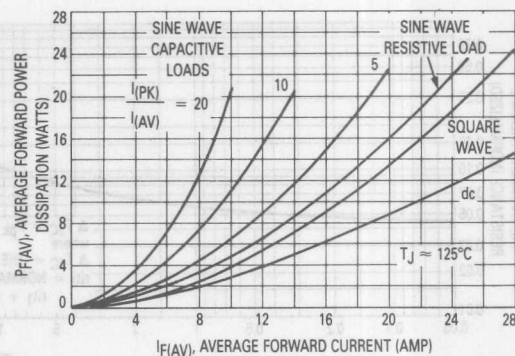

Figure 4. Forward Power Dissipation
Step 3: Find $P_{F(AV)}$ from Figure 4. ** Read $P_{F(AV)} = 12.8$